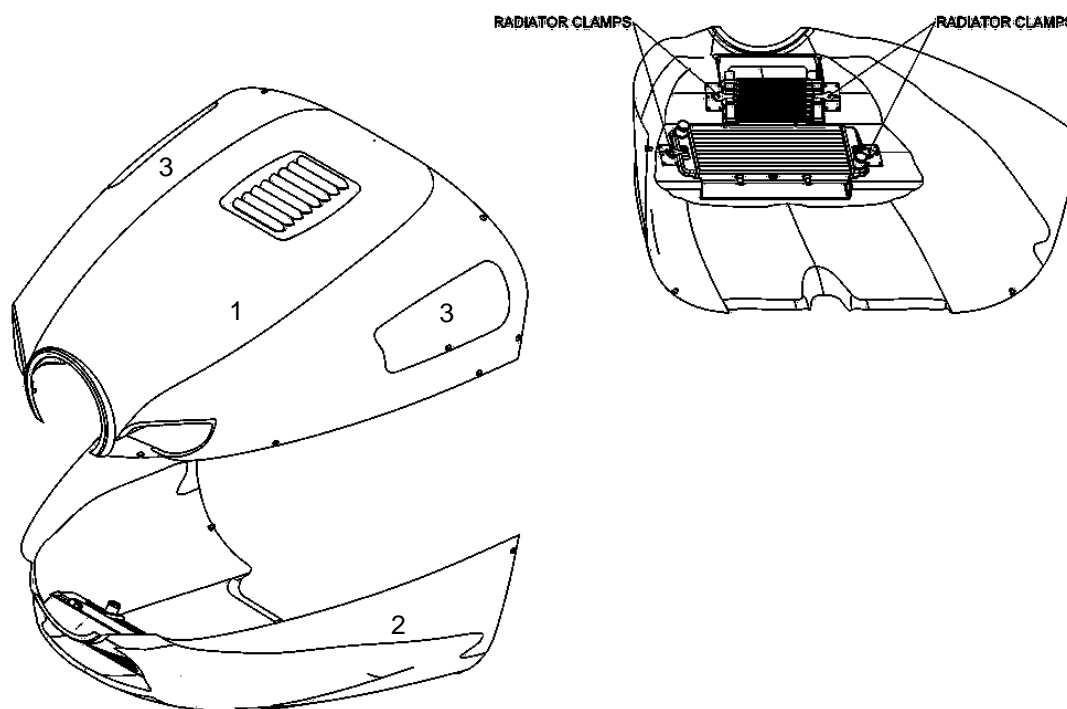

Figure 48: Engine cowling.
Refer to Figure 48. The engine cowling is made up of moulded fibreglass upper (1) and lower (2) parts. Inspection panels (3) are located on the top cowling and are secured down by two Dzus fasteners. The cowling houses the engine, air filter, coolant radiator, oil radiator and oil reservoir. Air is provided to the air filter through the right-side intake. Circulation over the engine is provided by the front nose intakes. Additional circulatory air is supplied through the coolant and oil radiators. The outflow area is on the underside of the cowling, by the firewall.
2. Disconnect the air filter supply pipe (1) from the cowl inlet (2) by loosening the clamp (3) securing it to the inlet.
4. Release the four catches (4), one on each side of the coolant (5) and oil radiators (6). Also refer to Figure 48.